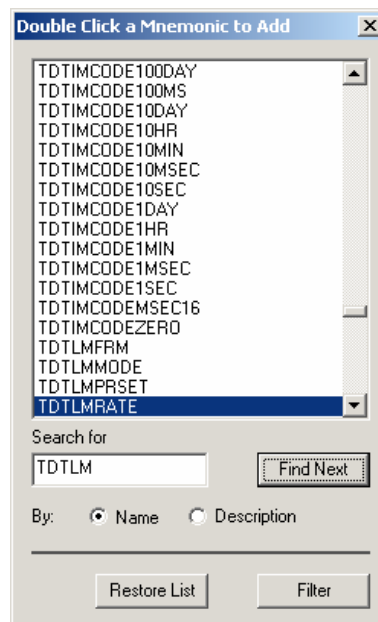

Figure 96: Choose Pseudo Component Mnemonic Screen
- Use the 'Choose Mnemonic' button to activate the mnemonic list screen (see *Figure 96*).